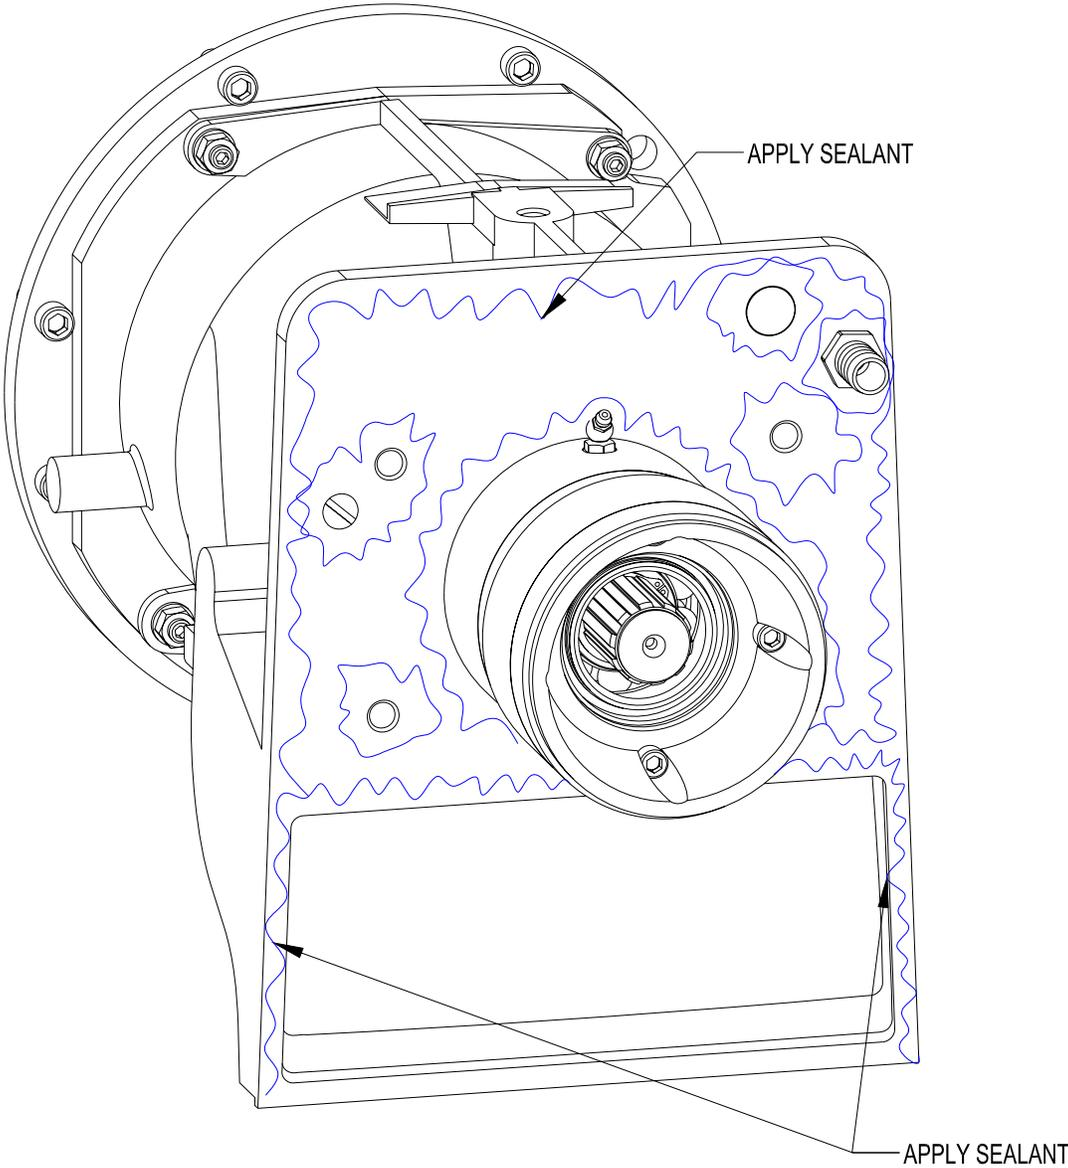

FIG 9
41. Apply silicone sealant to the drive housing flange around bolt holes, fittings, and the two vertical sides of the water intake. FIG 9